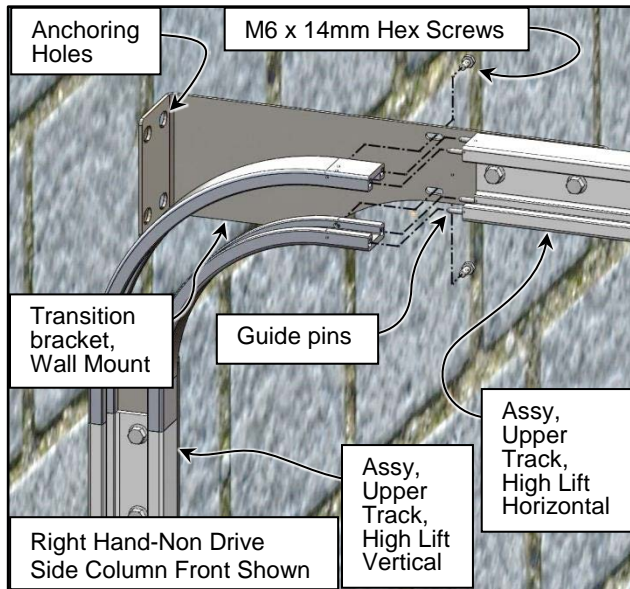
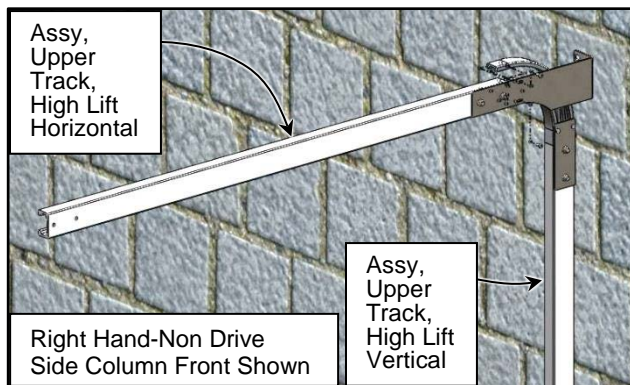

Figure 67
Figure 68
3. Identify, locate, and orient the High Lift Upper Track Horizontal Assembly for each side. This includes the upper track wall transition bracket, horizontal section track, locating pins, and fasteners. Install on both side column assemblies as shown. Shim the transition bracket to the wall as necessary. Disassemble as needed. (See Figure 67 & Figure 68)
4. Confirm that guide pins are installed in the guide rail. (See Figure 67)